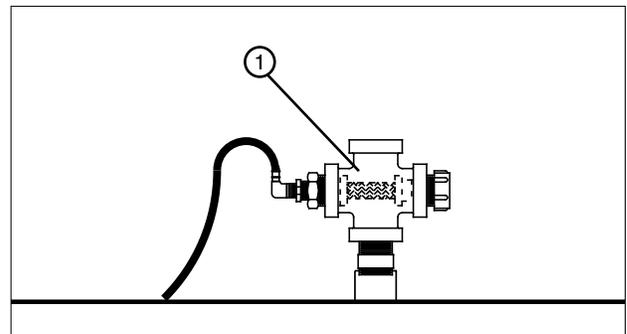

Figure 53-3 1. Cross Filter
- Clean the end gun shut off solenoid valve cross filter or optional dirty water filter. See figures 53-3 and 53-4.